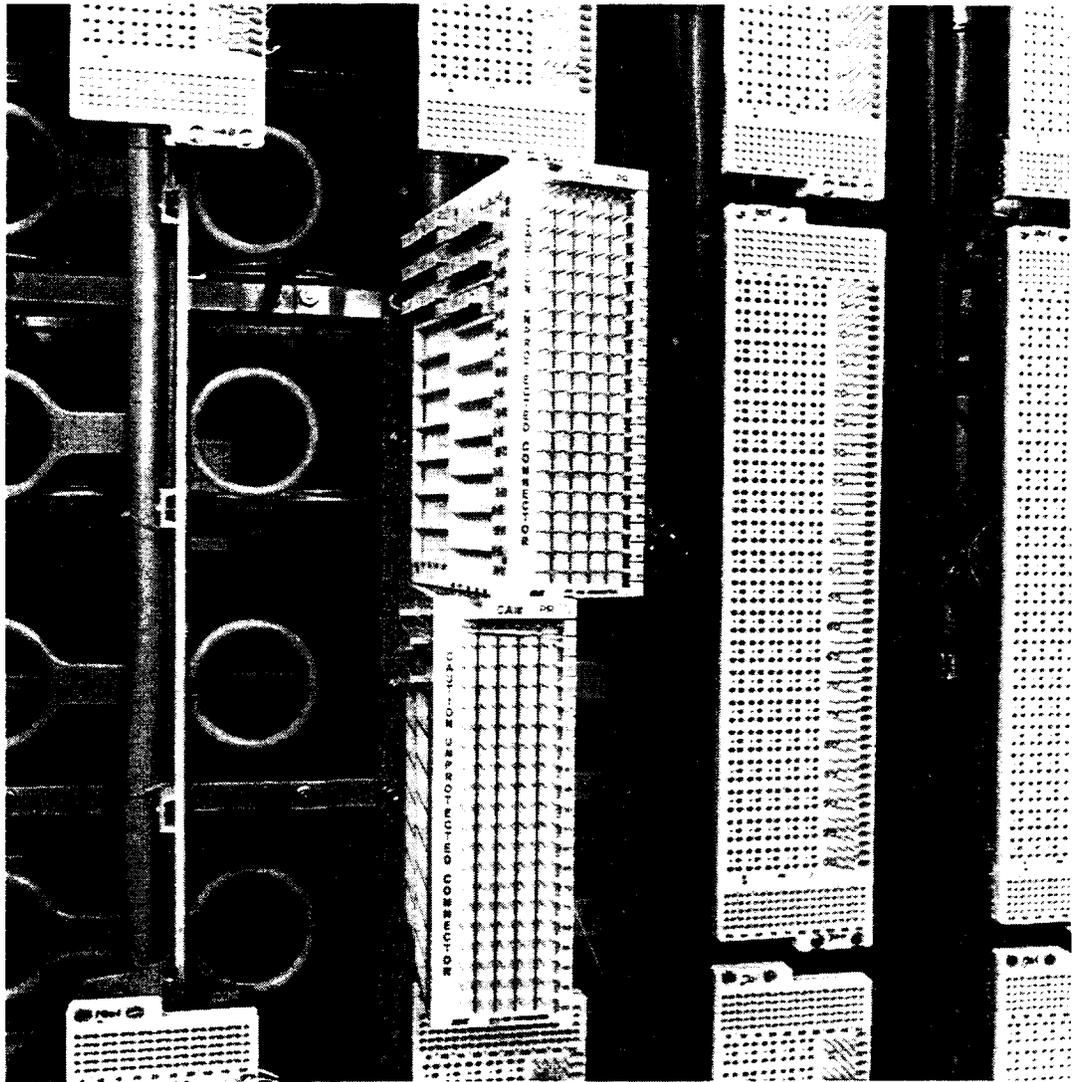
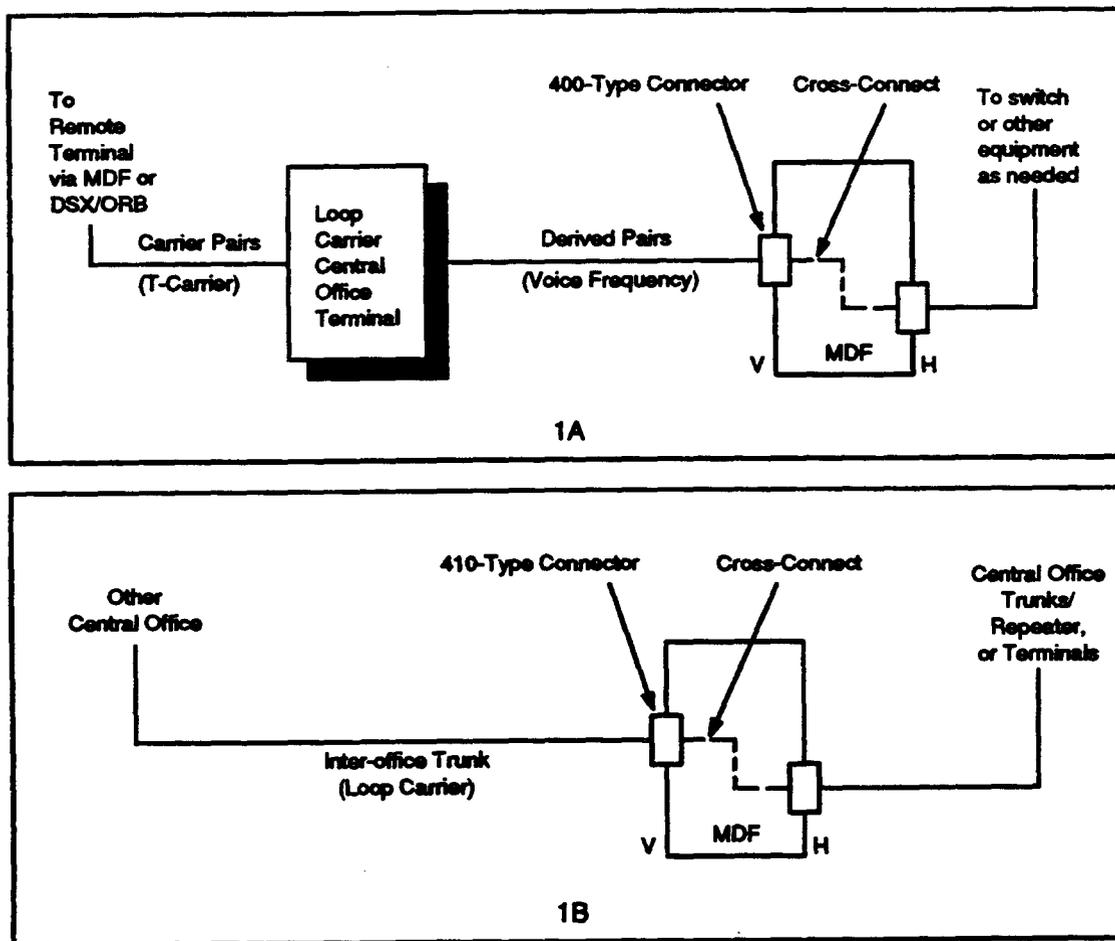

Figure 1. High Density 410 and Angled 410M Unprotected Connectors
Figure 2. Typical Application with Digital Loop Carrier System
**1.06** These high density unprotected connectors are used for terminating and cross-connecting circuits on the Main Distributing Frame (MDF). They are ideal for termination of loop carrier terminals and/or derived pairs from pair-gain systems (Figure 1). A schematic, showing protected loop terminal application and derived pair terminations for pair gain systems, is shown in Figure 2.